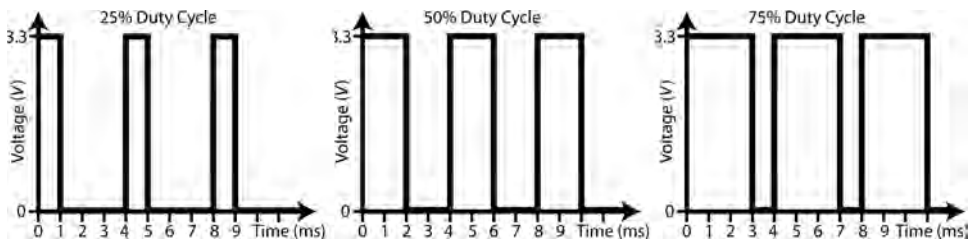

Figure 4-9: Duty cycles of pulse width modulation (PWM) signals
Figure 4-9 illustrates a PWM square wave signal at different duty cycles. The *duty cycle* is the percentage of time that the signal is high versus the time that the signal is low. In this example, a high is represented by a voltage of 3.3V and a low by a voltage of 0V. A duty cycle of 0% means that the signal is constantly low, and a duty cycle of 100% means that the signal is constantly high.
The *period* (T) of a repeating signal (a *periodic signal*) is the time it takes to complete a full cycle. In the example in Figure 4-9, the period of the signal in all three cases is 4ms. The *frequency* (f) of a periodic signal describes how often a signal goes through a full cycle in a given time period. Therefore, for a signal with a period of 4ms, it will cycle 250 times per second ($1/0.004$), which is 250 hertz (Hz). We can state that f (Hz) = $1/T$ (s) or T (s) = $1/f$ (Hz). Some high-end DMMs measure frequency, but generally you use an oscilloscope to measure frequency. PWM signals need to switch at a frequency to suit the device to be controlled; typically, the frequency is in the kHz range for motor control.